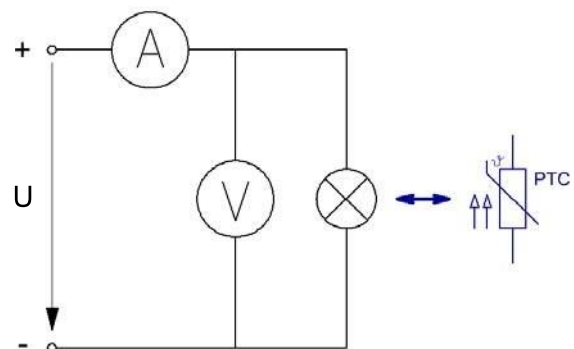

Fig. 2.2.2.1: Characteristic recording $I = f(U)$ and $R = f(U)$
- Assemble the exercise circuit on the Board (Fig. 2.2.2.1).